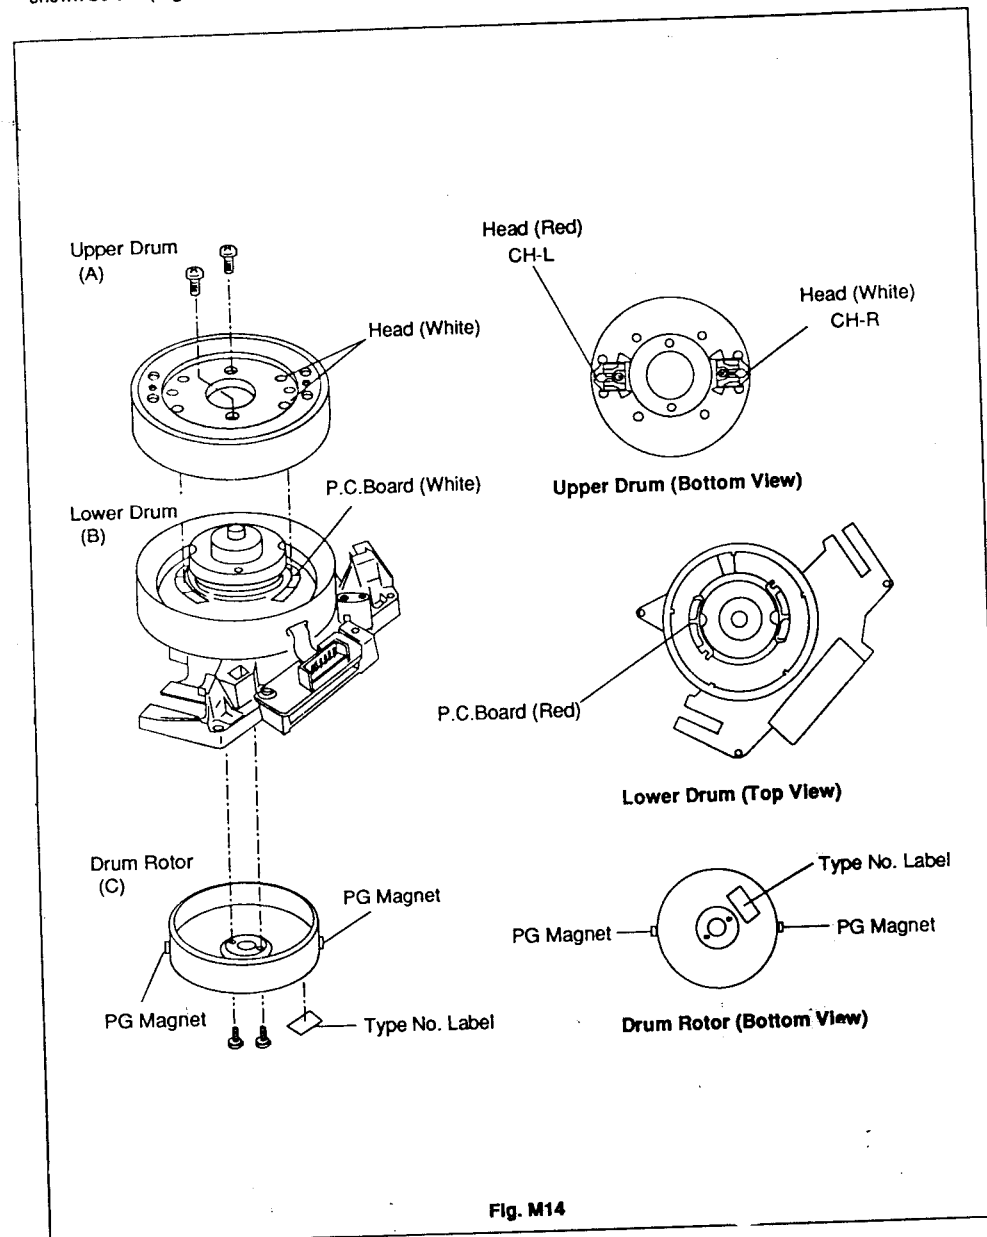

Fig. M14
Upper Drum (A), Lower Drum (B) and Drum Rotor (C) must be assembled so that the white marks are lined up as shown below. (Fig. M14)